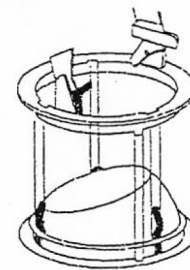

FIG. 5
**NOTE:** For PAA & PAALV series housings, the three SPRING CLIPS on the CONE TRIM must be lined up with the notches on the YOKE RING ASSEMBLY and the POCKET on the CONE TRIM must also be lined up with the TAB on the YOKE RING ASSEMBLY so as to provide the proper YOKE RING ASSEMBLY/ CONE TRIM orientation (Fig. 5).